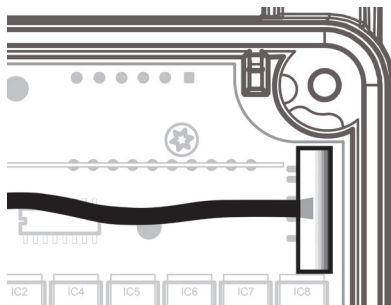

Figure 2. USB-to-Sesam cable mounted inwards.
5. Make sure that the bent connector on the USB-to-Sesam cable is facing inwards and that the connector is attached over the 6-pin debug connector in the right way. Pin 1 to Pin 6 should be covered by the connector, Figure 2.